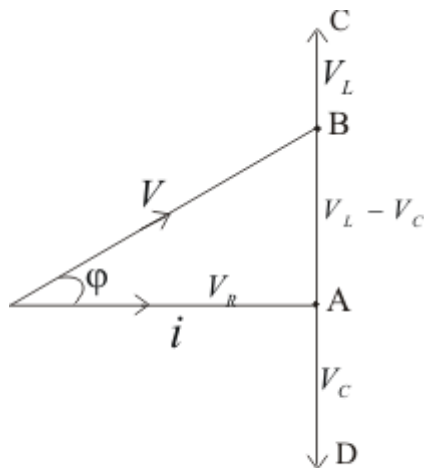

Figure 12(b). Phasor diagram
- Since  $V_L$  is ahead of  $i$  by  $90$  and  $V_C$  is behind by  $90$  so that phase difference between  $V_L$  and  $V_C$  is  $180$  and they are in direct opposition to each other as shown in the figure 12(b)
- In figure 12(b) we have assumed that  $V_L$  is greater than  $V_C$  which makes  $i$  lags behind  $V$ . If  $V_C > V_L$  then  $i$  lead  $V$